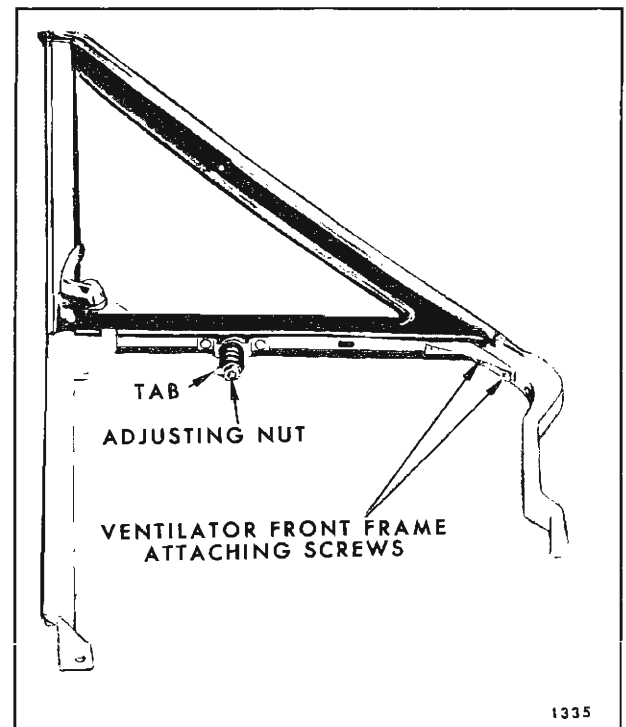

Fig. 6-77—Front Door Ventilator Assembly "X & Z" Styles
loosening decreases effort. When desired adjustment has been obtained, bend down washer tab to lock nut in position (See Figure 6-77).
3. Remove two attaching screws securing ventilator casting to frame and separate ventilator casting from frame so that the ventilator weatherstrips can be removed (Fig. 6-77).